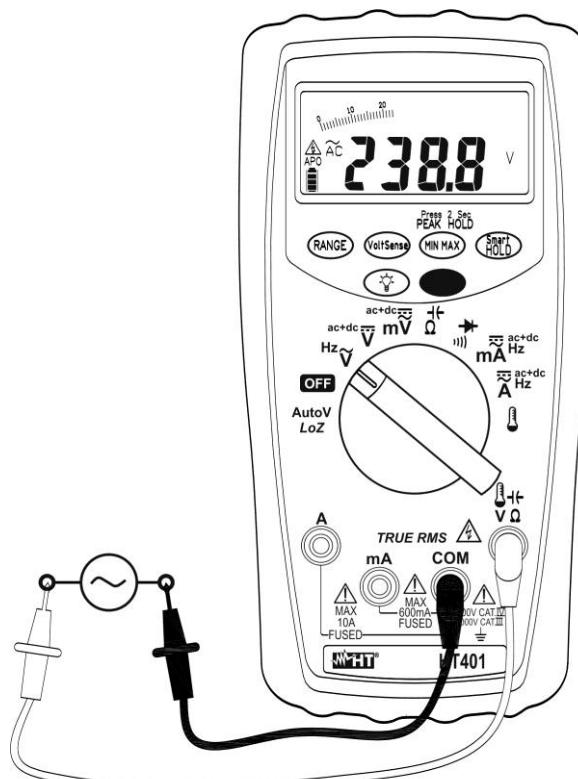

Fig. 3: AC voltage measurement
4. Insert the red cable into input lead  $\text{V}\Omega$  and the black cable into input lead **COM** (see Fig. 3)